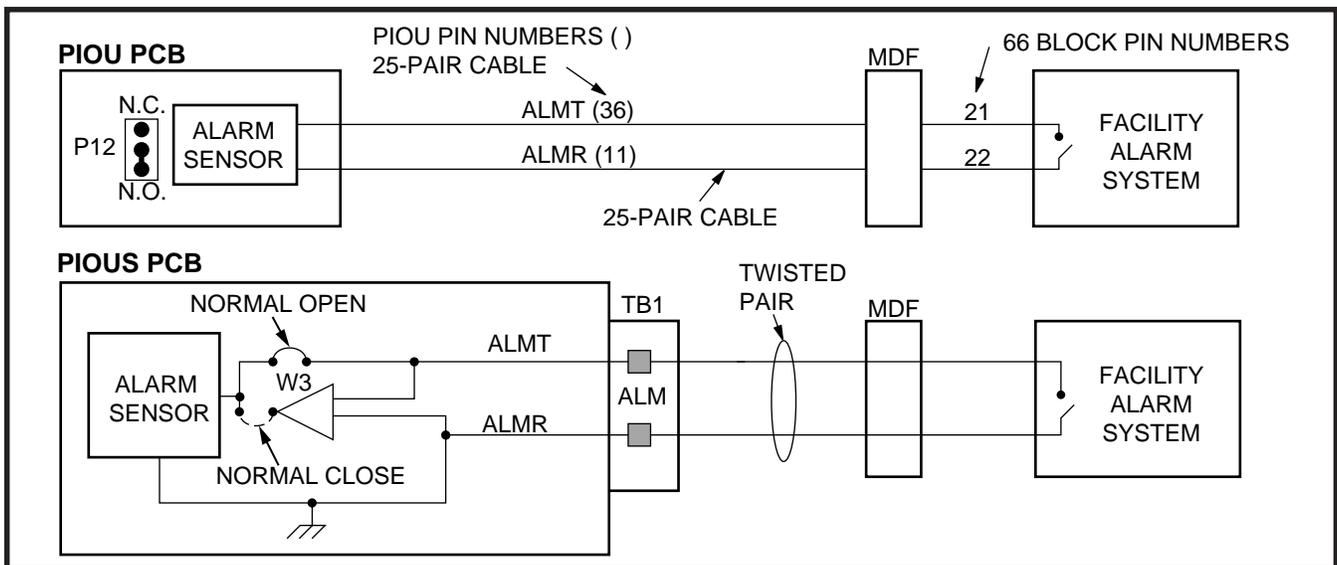

FIGURE 8-27
11.01 Alarm Sensor Options. Jumper plug **P12** on the PIOU is used to set the alarm sensor to detect an open or closed condition from the facility alarm system. Set **P12** as follows (refer to Figure 8-27):
11.02 Jumper **W3** on the PIOUS is used to set the alarm sensor to detect an open or closed condition from the facility alarm system. Solder the **W3** jumper wire as follows (refer to Figure 8-27):
11.03 Alarm Sensor Wiring. Refer to Figure 8-27, and connect the facility alarm system relay contacts to the PIOUS/PIOUS PCB.